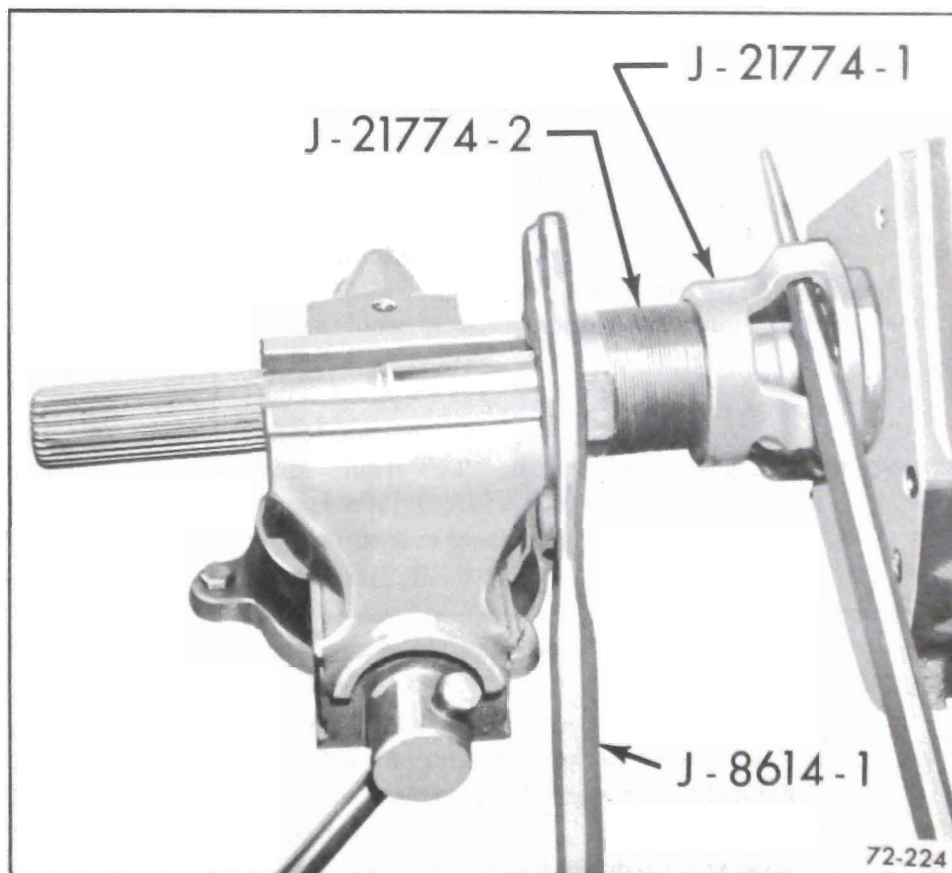

Figure 72-224 - Installing Rear Bearing
22. Install rear bearings as follows: See Figure 72-224.